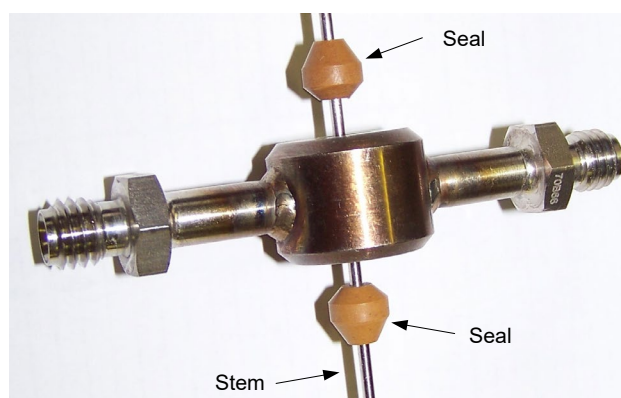

Figure 7.11. Installing the Stem Seals
17. Slide the first cleaned **seal** over the **stem** using the "A" end of Seal Insertion Tool TL-791A006B. The 30° angle (pointed end) of the **seal** must face the **Belleville springs**. Figure 7.11 shows the orientation of the seal.
19. Slide the second cleaned **seal** over the **stem** using the "B" end of Seal Insertion Tool TL-791A006B. The 30° angled (pointed end) of the **seal** faces out, away from the **sample chamber**. Figure 7.11 shows the orientation of the seal.